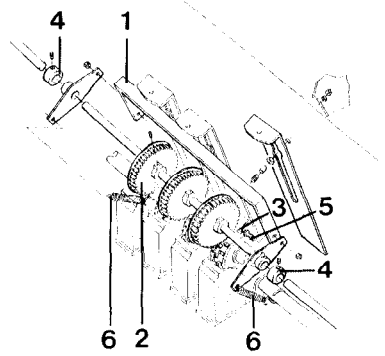

Fig. 37
- take the mounting frame (Fig. 37/1) off the shutter slide bolts.
- loosen drive sprocket (Fig. 37/2) and slide it sideways fix it with the mounting frame above the new tramline by using longer shutter slide bolts M6 x 25, DIN 933 (Fig. 37/3) for mounting it to the seed drill.
- push arresting rings (Fig. 37/4) slightly against the swivel-bearings and fix in that position.
- to prevent a shifting away of the secondary shaft the hexagan bolts (Fig. 37/5) of the swivel-bearing fixing have to be tightened with a slight play. Attach the four lateral pulling springs (Fig. 37/6) to the bottomflap shaft.